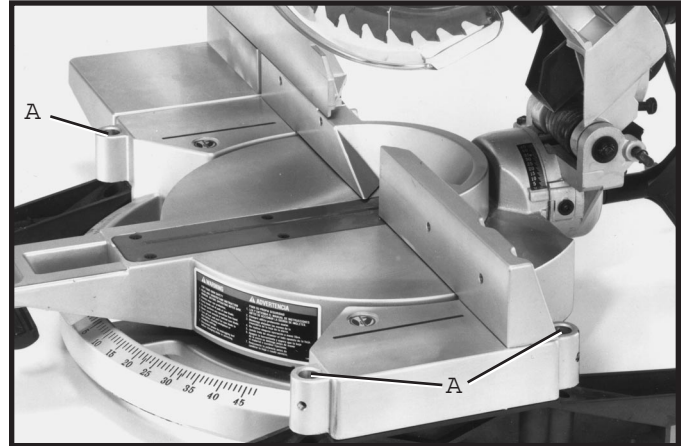

Fig. 8
1. The standard equipment work clamp can be assembled to any one of the three holes (A) Fig. 8, provided on the base of the machine, as follows: